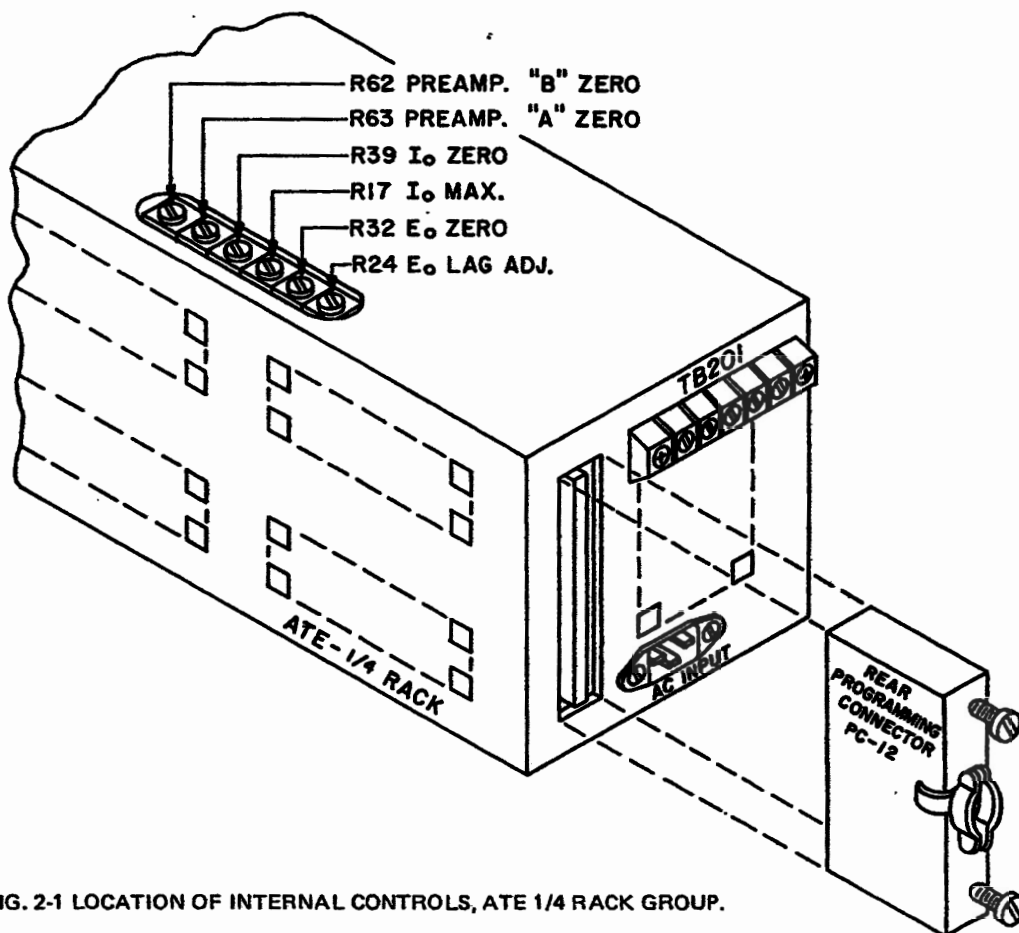

FIG. 2-1 LOCATION OF INTERNAL CONTROLS, ATE 1/4 RACK GROUP.
- c) INTERNAL CONTROLS: Refer to FIG. 2-1 and Table 2-1.
- 2-19 **LAG NETWORK ADJUSTMENT.** The ATE power supply operating in the "fast" mode, is dynamically stabilized by means of an internal lag network (E_o LAG, R24, see FIG. 2-1 for location). This control should be adjusted, for each application, by monitoring the load with an oscilloscope and turning the LAG control for best output response and maximum dynamic stability under all operating conditions.